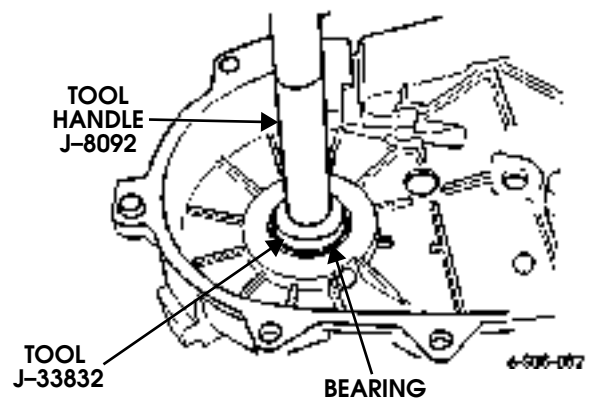

Figure 5-121: Front Output Shaft Rear Bearing Installation
- c. Install new bearing with tool handle J-8092 and installer J-33832 (Figure 5-121). The rear bearing bore is chamfered at the top. Install the bearing so it is flush with the chamfer lower edge.